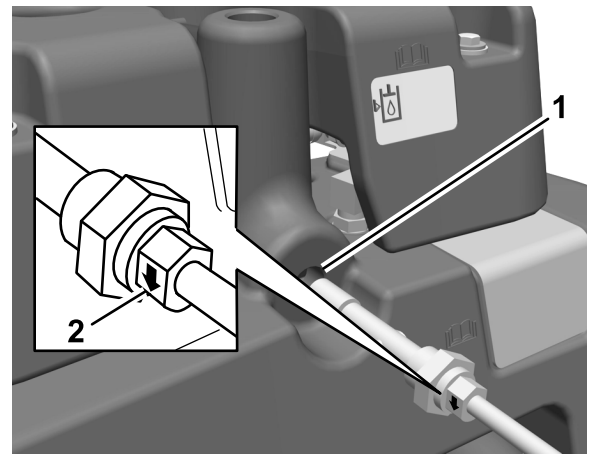

Figure 11
19. Remove the plug from the main-hydraulic tank (Figure 11).
20. Slide the O-ring onto the hydraulic-oil-level sensor and install the sensor into the hydraulic tank (Figure 11).
- Important:** Ensure that the indicator arrow on each side of the nut that secures the hydraulic-oil-level sensor points downward (Figure 11).